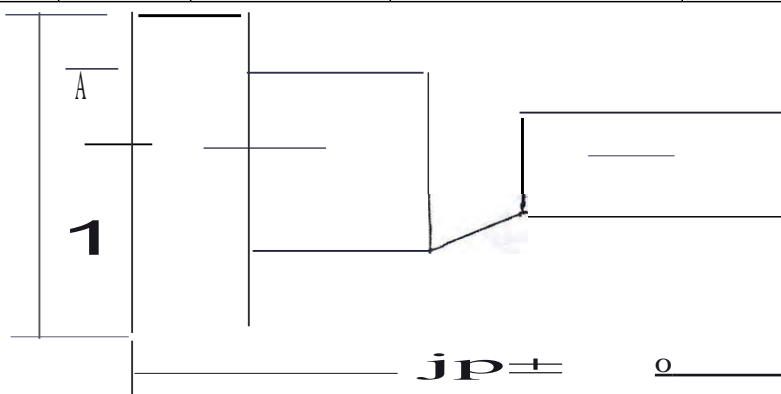

Fig.Q7(c)
c. Write a turning centre part program for the part shown in Fig.Q7(c). Use one finish cut and rest rough cut to remove the material. Use the following information.